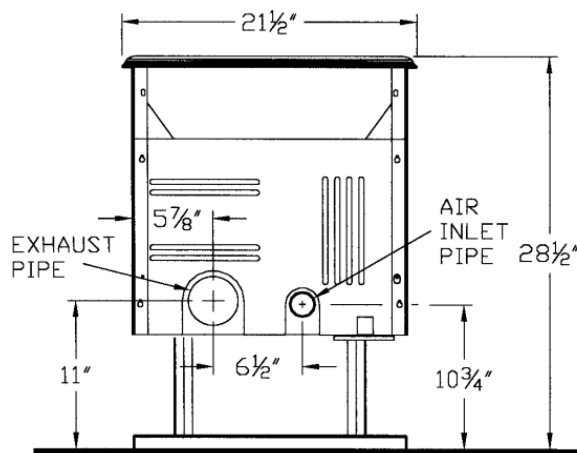
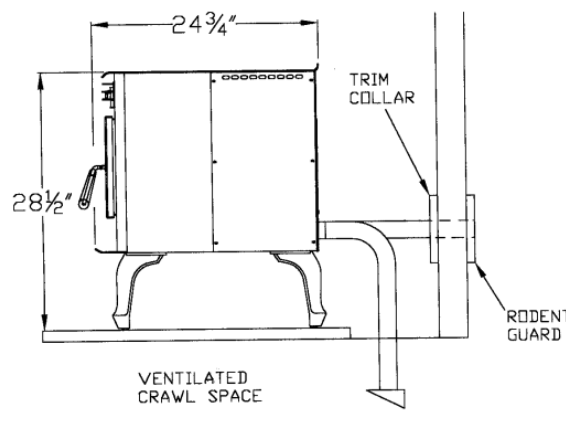

Figure 3
Figure 4
A 2" inside diameter metallic pipe, either flexible or rigid, may be attached to the inlet at the stove's rear (refer to figure 3). A rodent guard (minimum ¼" wire mesh)/wind hood must be used at the terminus (refer to figure 4). All connections must be secured and airtight by either using the appropriately sized hose clamp and/or UL-181-AP foil tape.
2. Locate position of hole in wall; directly behind stove exhaust vent (refer to figure 3).